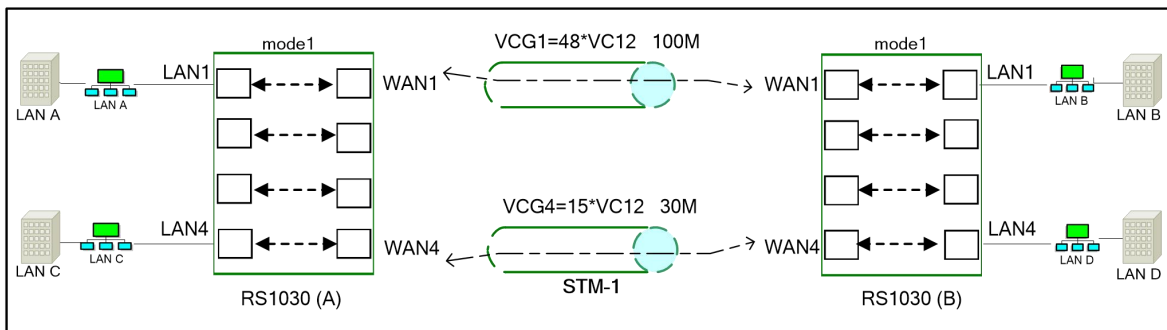

Fig. 5-7-1-2-1 Application I for port-based VLAN
As Fig. 5-7-1-2-1 shows, by creating port-based VLAN to the two equipments (BD-MSOT (A) and BD-MSOT (B)) separately, the following communication can be implemented via VCG